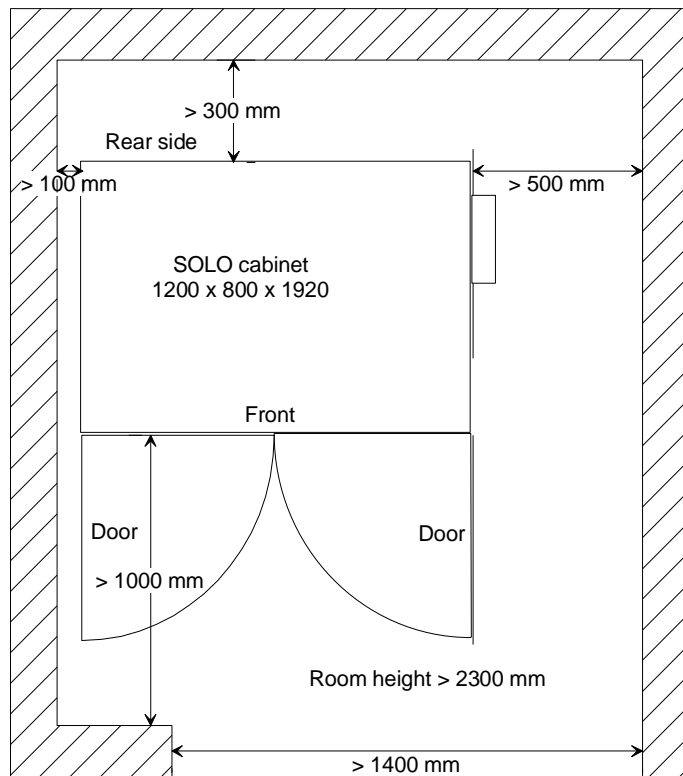

Figure 4.2 Minimum clearances
- Make sure that the minimum required clearances to surrounding objects are respected (emergency exit route, maintenance works, air cooling, etc.) – see Figure 4.2.